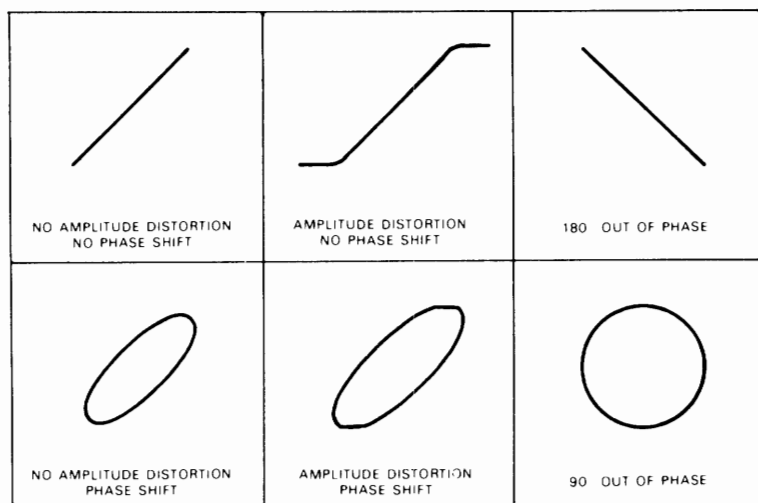
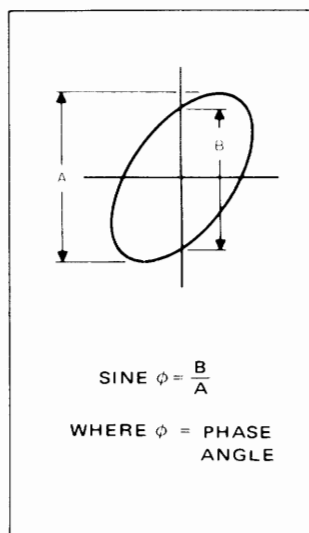

Fig. 25 Typical phase measurement oscilloscope displays
Fig. 26 Phase shift calculation
7. Some typical results are shown in **Fig. 25**. If the two signals are in phase, the oscilloscope trace is a straight line. If the vertical and horizontal gain are properly adjusted, this line is at 45° angle. A 90° phase shift produces a circular oscilloscope pattern. Phase shift of less (or more) than 90° produces an elliptical oscilloscope pattern. The amount of phase shift can be calculated from the oscilloscope trace as shown in **Fig. 26**.